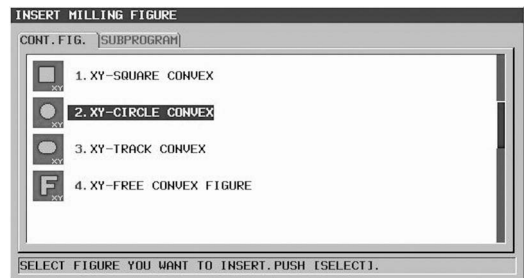

Figure 7-56 CONTOUR FIGURE,
- To define the contour shape of the milling Figure, select item 2. XY-CIRCLE CONVEX from the options in the INSERT MILLING FIGURE dialog (Figure 7-56).